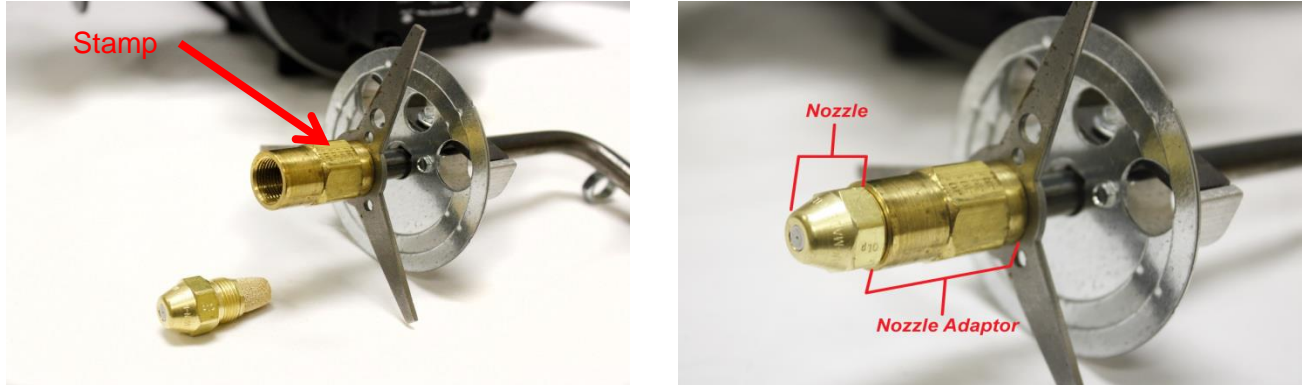

Figure 13 EH/EHASR Oil Gun Nozzle Installation (Flamelock and electrodes removed for clarity).
7. Thread the nozzle into the nozzle adaptor finger tight, then tighten the nozzle securely with a 5/8" wrench, while using a 3/4" backing wrench to hold the nozzle adapter. Do not over tighten. There is a brass stamp that reads "TOP" on the nozzle adapter that should be orientated up (Figure 13).